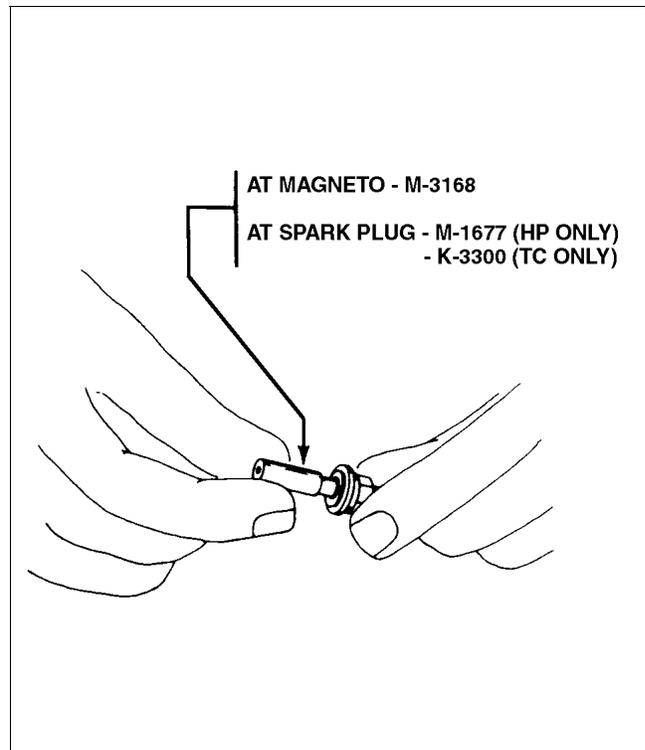

Figure 74-27. Installation of Insulator Sleeve
14. On magneto end of wire, place M-3168 insulator sleeve over silicone insulation. On spark plug end of wire, use M-1677 insulator sleeve (HP only) or K-3300 insulator sleeve and washer (TC only). (Refer to Figure 74-27.)